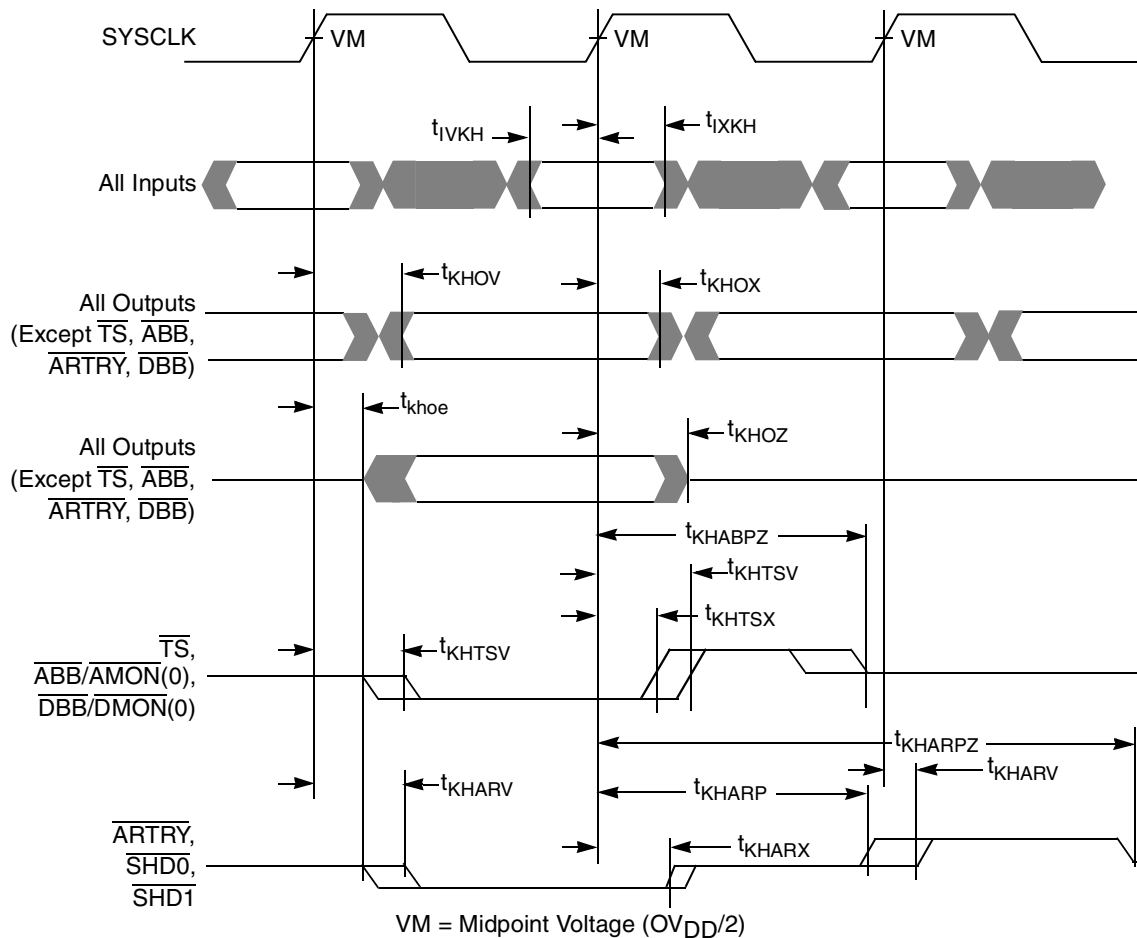

Figure 6. Input/Output Timing Diagram
7. According to the 60x bus protocol,  $\overline{\text{ABB}}$  and  $\overline{\text{DBB}}$  are driven only by the currently active bus master. They are asserted low then precharged high before returning to high-Z as shown in Figure 6. The nominal precharge width for  $\overline{\text{ABB}}$  or  $\overline{\text{DBB}}$  is  $0.5 \times t_{\text{SYSCLK}}$ , that is, less than the minimum  $t_{\text{SYSCLK}}$  period, to ensure that another master asserting  $\overline{\text{ABB}}$ , or  $\overline{\text{DBB}}$  on the following clock will not contend with the precharge. Output valid and output hold timing is tested for the signal asserted. Output valid time is tested for precharge. The high-Z behavior is guaranteed by design.
8. According to the 60x bus protocol,  $\overline{\text{ARTRY}}$  can be driven by multiple bus masters through the clock period immediately following  $\overline{\text{AACK}}$ . Bus contention is not an issue since any master asserting  $\overline{\text{ARTRY}}$  will be driving it low. Any master asserting it low in the first clock following  $\overline{\text{AACK}}$  will then go to high-Z for one clock before precharging it high during the second cycle after the assertion of  $\overline{\text{AACK}}$ . The nominal precharge width for  $\overline{\text{ARTRY}}$  is  $1.0 t_{\text{SYSCLK}}$ ; that is, it should be high-Z as shown in Figure 6 before the first opportunity for another master to assert  $\overline{\text{ARTRY}}$ . Output valid and output hold timing are tested for the signal asserted. Output valid time is tested for precharge. The high-Z behavior is guaranteed by design.
Figure 6 provides the input/output timing diagram for the MPC7410.